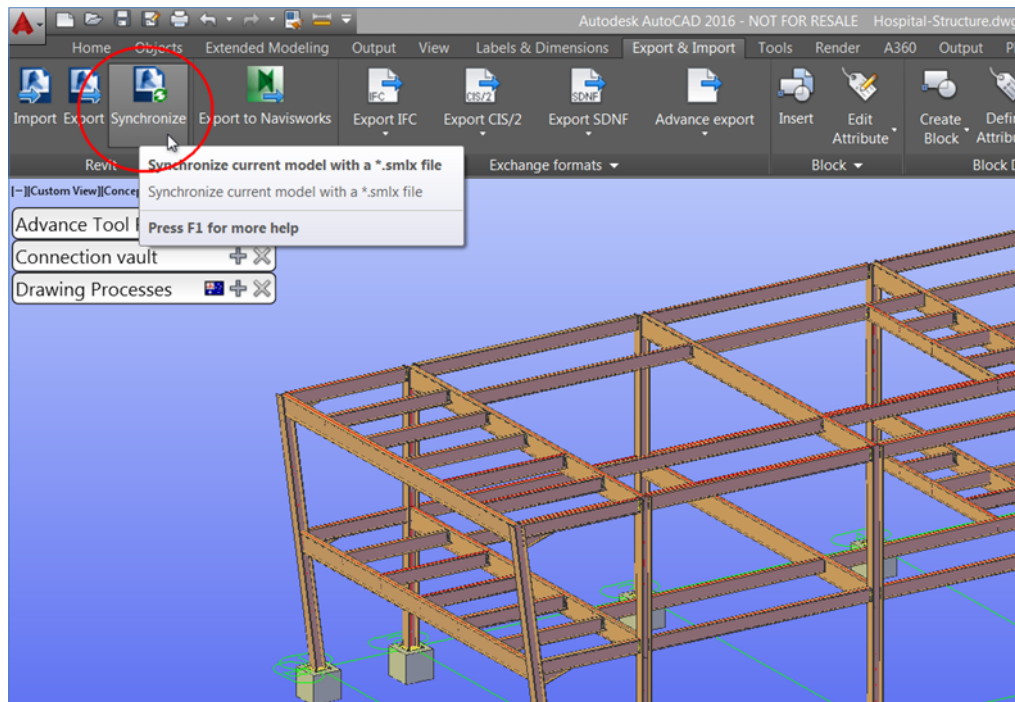

FIGURE 25: SYNCHRONIZING THE AUTODESK REVIT MODEL
1. In Advance Steel, from the **Export & Import** ribbon tab > **Revit** ribbon panel, click **Synchronize**, as shown in Figure 25.
*Tip: You can right-click on the **Status** column in the dialog box and select additional columns. For example, in Figure 25, the **Section** and **Section – File** columns are added using this method.*
Tip: It is extremely important to understand what are the changes listed in the dialog box. Sometimes, the changes are only showing the beam cut created in Advance Steel due to the joints that were created. However, if the Change column shows **Section**, in addition to the other changes, it means the section of the member has been changed, as shown in the bottom two columns in Figure 25.